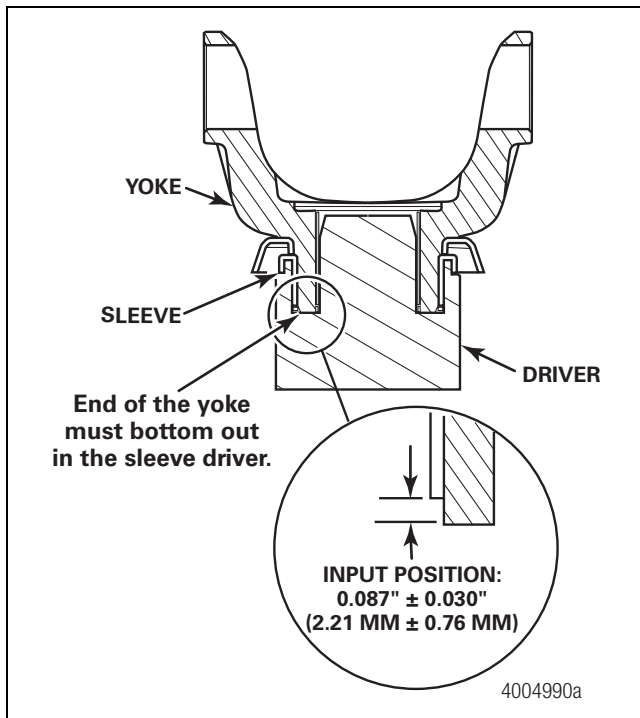

Figure 7
1. Inspect the seal sleeve and replace, if necessary. Use sleeve driver 2728T2 to install the seal sleeve onto the yoke. To obtain sleeve driver 2728T2, refer to the first page of this bulletin. Figure 7.
4. The yoke must be fully-pressed into the sleeve driver until the end of the yoke bottoms out in the sleeve driver. This will correctly position the sleeve onto the yoke. When correctly seated, the forward-rear input sleeve is positioned 0.087-inch  $\pm$  0.030-inch (2.21 mm  $\pm$  0.75 mm) from the end of the yoke. Figure 7.